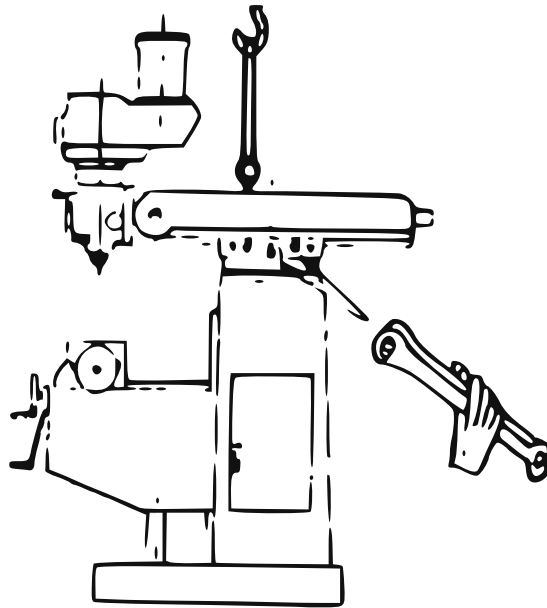
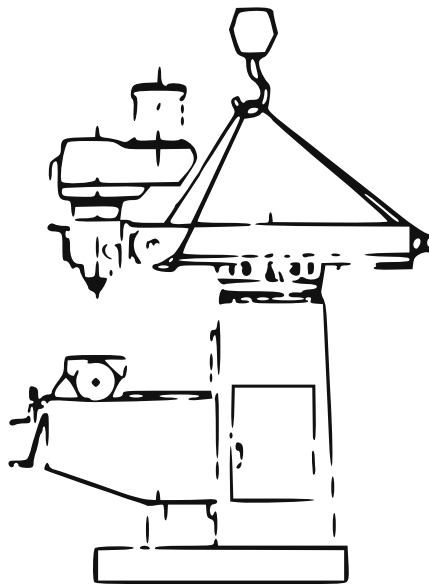

Figure 3-3: Lifting by the eye bolt; clamp the ram tight before lifting
Figure 3-4: Lifting the unpacked machine by reinforced cable
- Lift the machine with a reinforced cable (Figure 3-4) or with the eye bolt (Figure 3-3).
- Always make sure the ram is tightly clamped while lifting (Figure 3-3).